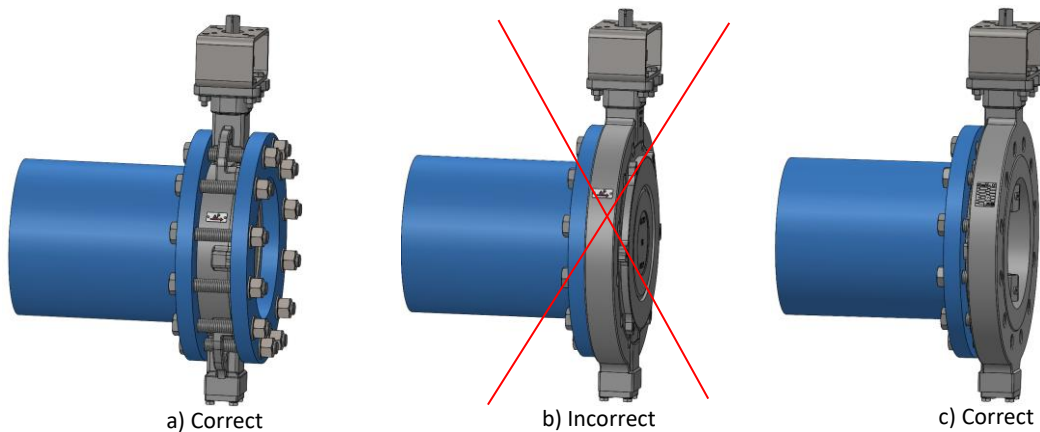

Fig. 7: Installation at the end of the pipe
- The valve is installed exclusively between pipe flanges. It can be installed at the end of the pipe only when using a counterflange or a "lug" version without a counterflange, but in the opposite direction (Fig. 7) and with reduced pressure ($p_{prac} \times 0,7$)